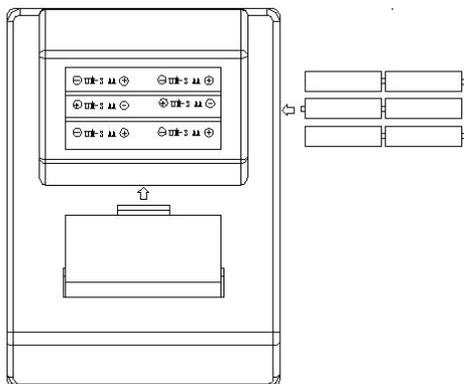

Figure 1
2. The battery compartment is located at the bottom side of the meter (Refer to Figure 1). Flip the meter over so that the bottom side is facing up. Lift the battery cover to expose the battery compartment.